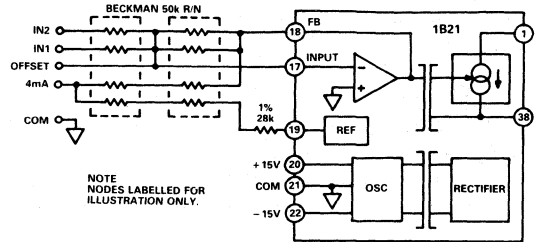

Figure 4. Low Tempco Resistor Network Configuration
**Low Drift Input Network:** Figure 4 shows a configuration suitable for applications where errors have to be minimized over a wide temperature range. A temperature tracking network such as a 50k Beckman (PN 698-3R50KD) can be used to implement both offset and gain for either 0 to 20mA or 4mA to 20mA current loops. For 0-10V signals either IN1 or IN2 can be used for input. For 0-5V signals, jumper IN1 to IN2. Similarly, for 4mA to 20mA operation the 4mA node should be jumpered to OFFSET, while for 0 to 20mA it should be tied to COM.